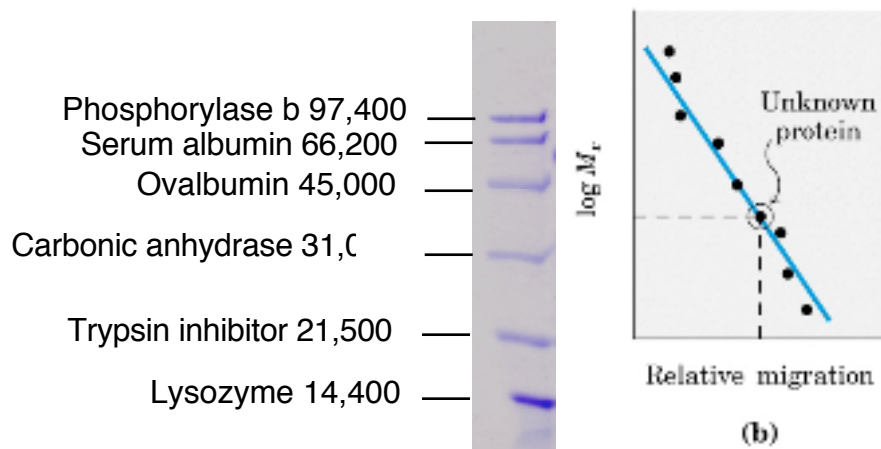

Figure 2. Sizes of protein molecular weight markers (M_r – molecular mass) and example of molecular mass determination (b).
2. Use Microsoft Excel to prepare a standard curve by plotting the logarithmic value of the molecular mass (M_r) of each molecular weight marker (y axis) against its migration distance (in mm, x-axis) from the well (see figure 2). Include the equation for the line of best fit for your data. Use this equation to estimate the M_r for GFP. Prepare a figure legend (figure no. and one sentence description) that also includes your estimate.